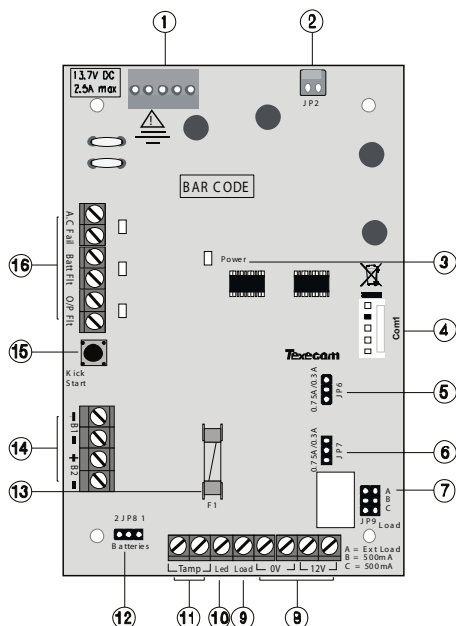

Figure 2. PCB Layout
If an external load is used it must be connected between the "Load" and "12V" terminals (see items ⑧ and ⑨) of Figure 2).